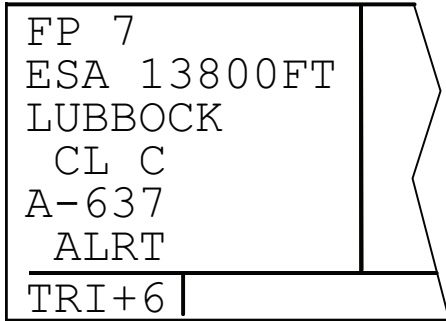

Figure 3D-95. TRI 6 Page
4. Turn off the cursor function and then select the TRI 6 page. The minimum ESA and a listing of areas of special use airspace of special use airspace won't fit on one page, there will be multiple TRI 6 pages indicated by TRI+6. Refer to Figure 3D-95.